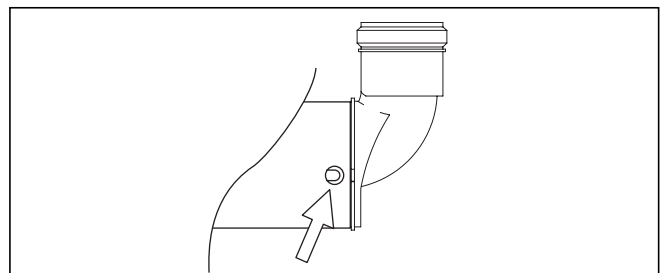

Fig. 2.29 Locking the catch
- Push the flue duct with the variable terminal back in the air duct. Carefully push the flue duct back into the sleeve of the duct or bend behind it. Lock the two catches (fig. 2.29).